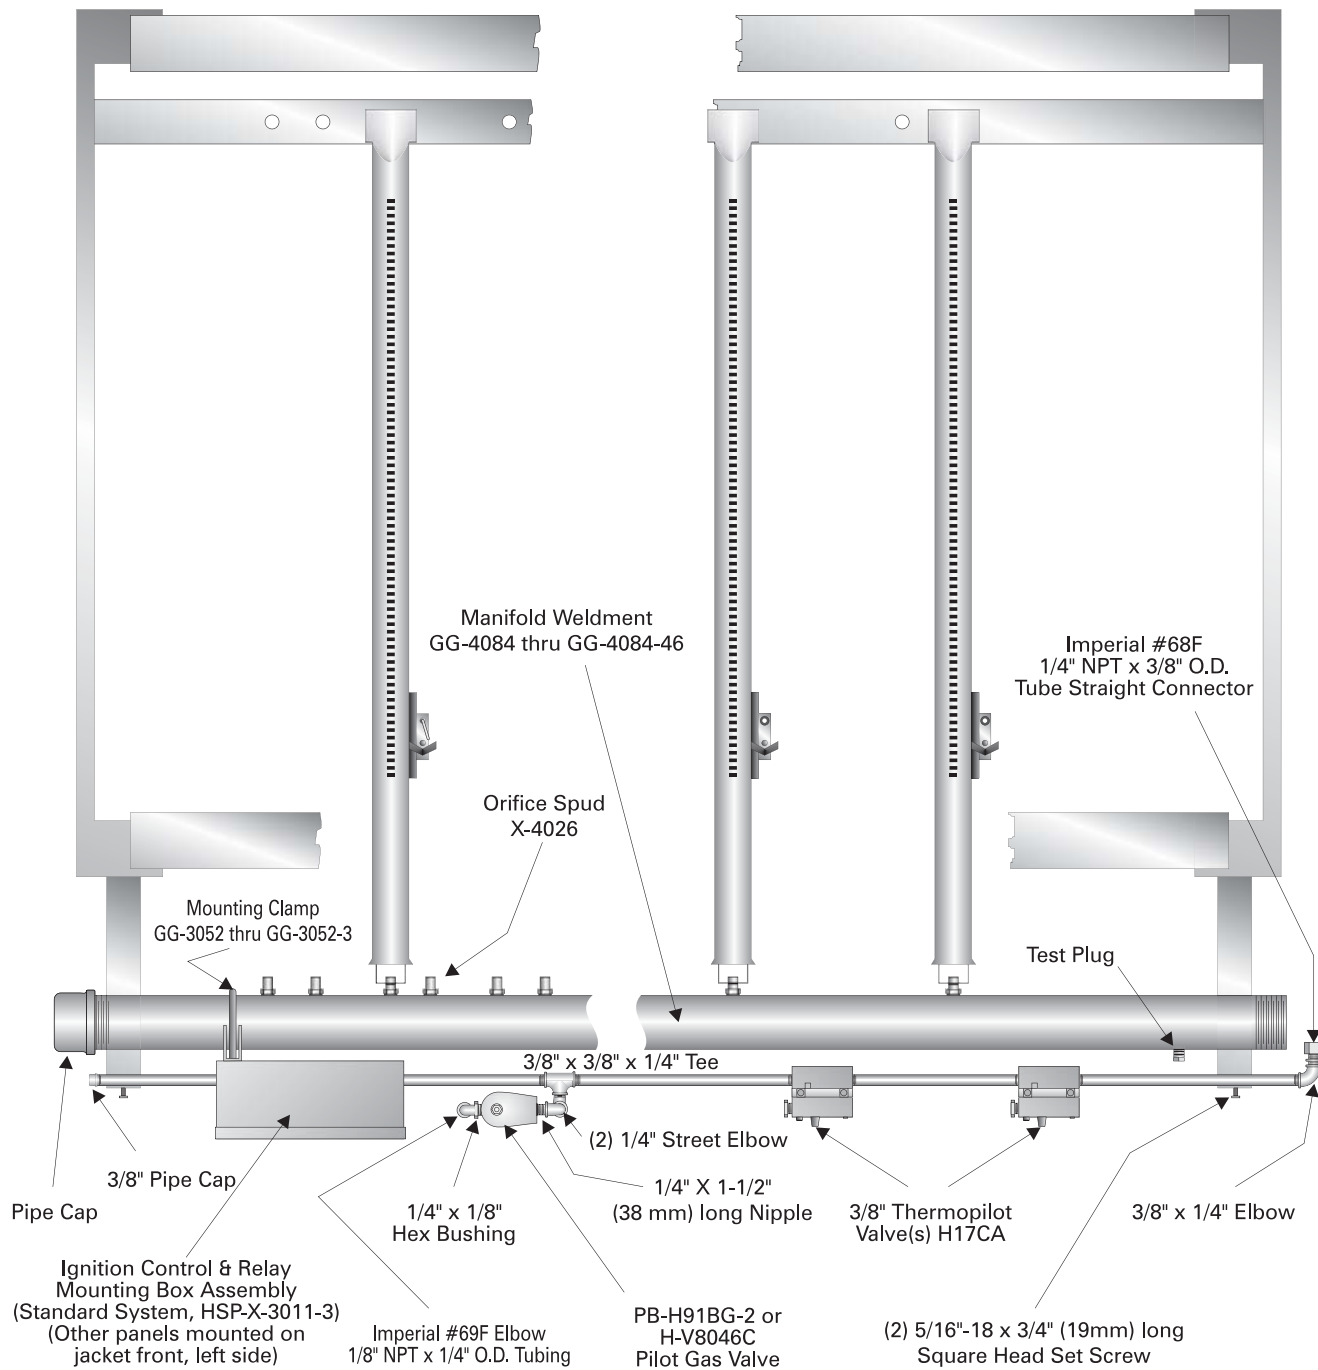

Figure 2.5: Typical Gas Manifold and Pilot Line Assembly
3. Place Manifold on front of Base. Bolt the hangers using 5/16"-18 x 1" (25 mm) long cap screws with 5/16" flat washers. See Figure 2.5.